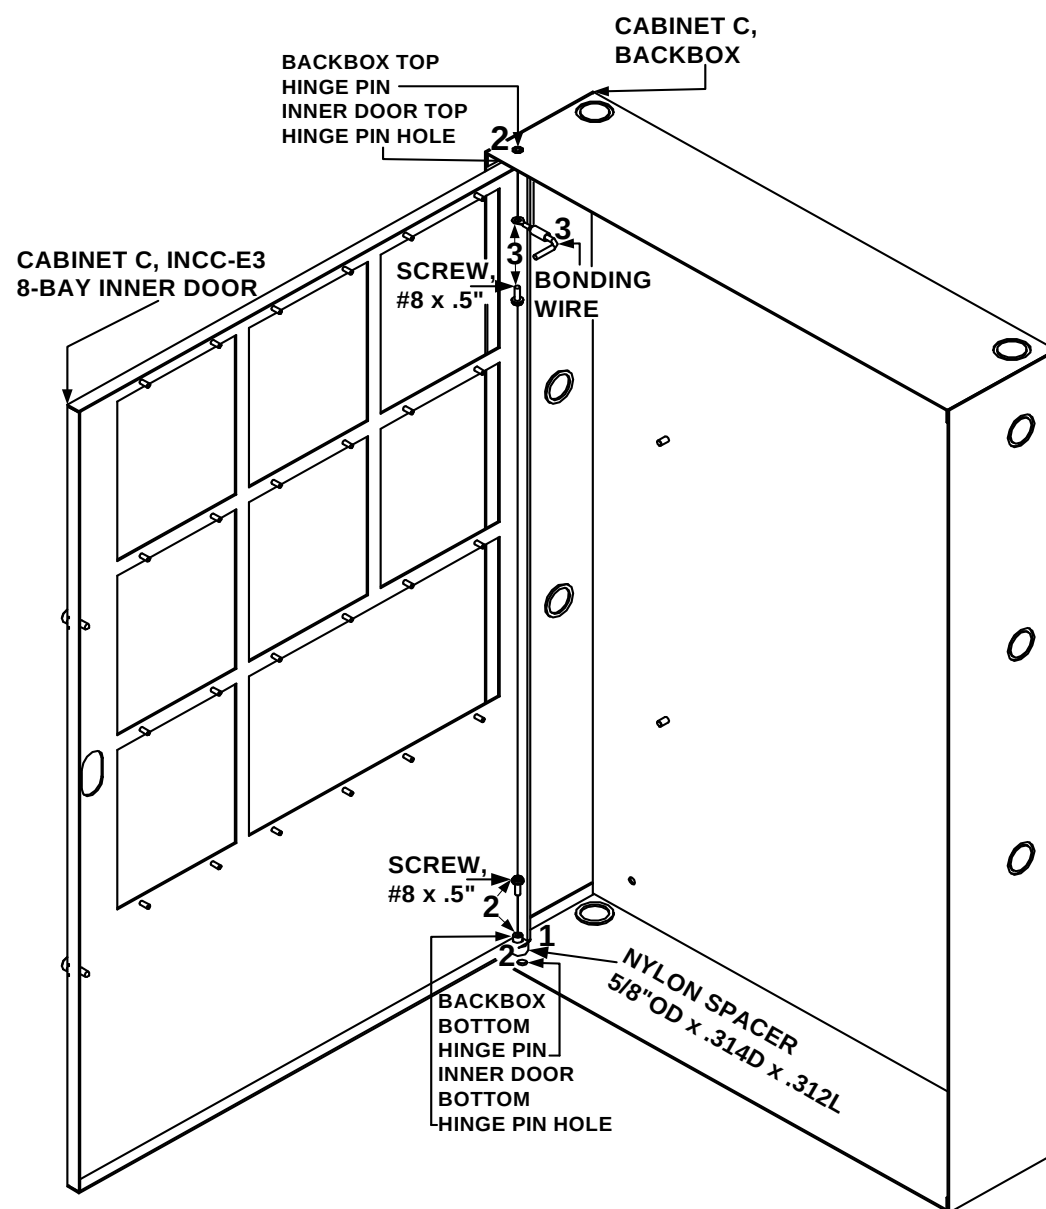

Figure 2.5.9.11.1 Cabinet C, INCC-E3 8-Bay Inner Door to the Backbox Installation
**NOTE:** For information on the installation of the opposite end of the bonding wire, see Section 2.5.9.12, Step 5 and Location 5 of Figure 2.5.9.12.1.